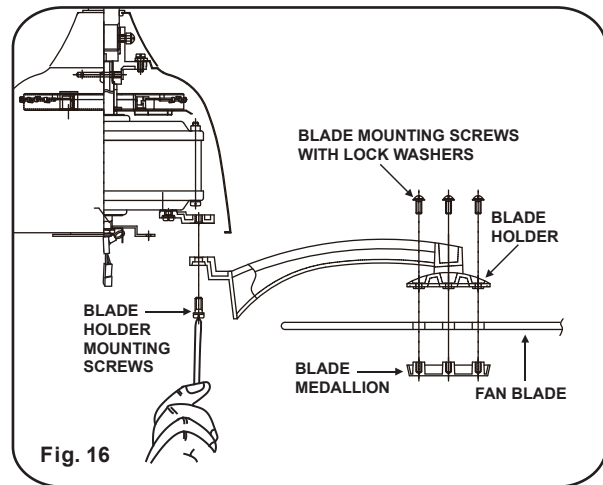

Fig. 16
Step 1. Attach the blade to the blade holders and blade medallions using the blade mounting screws with lock washers (3/16" x 15mm) as shown in Figure 16. Start a screw into the blade holder, do not tighten. Repeat for the 2 remaining screws and washers.
Step 3. Fasten blade assembly to motor using the blade holder mounting screws (1/4"\*1/2") supplied. (Fig. 16)